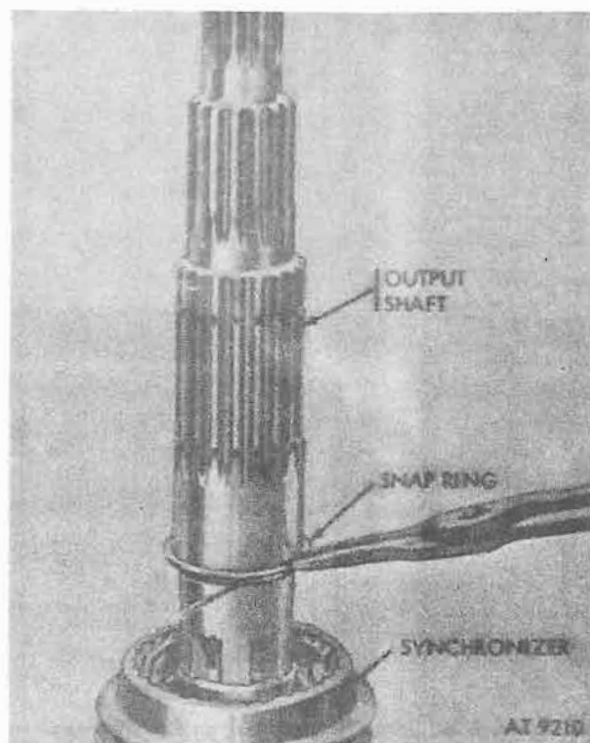

Figure 8-77. Third and fourth speed gear synchronizer snapping.
l. Using snapping pliers remove snapping from output shaft (fig. 8-77).
a. Install snapping on output shaft. Refer to figure 8-77.